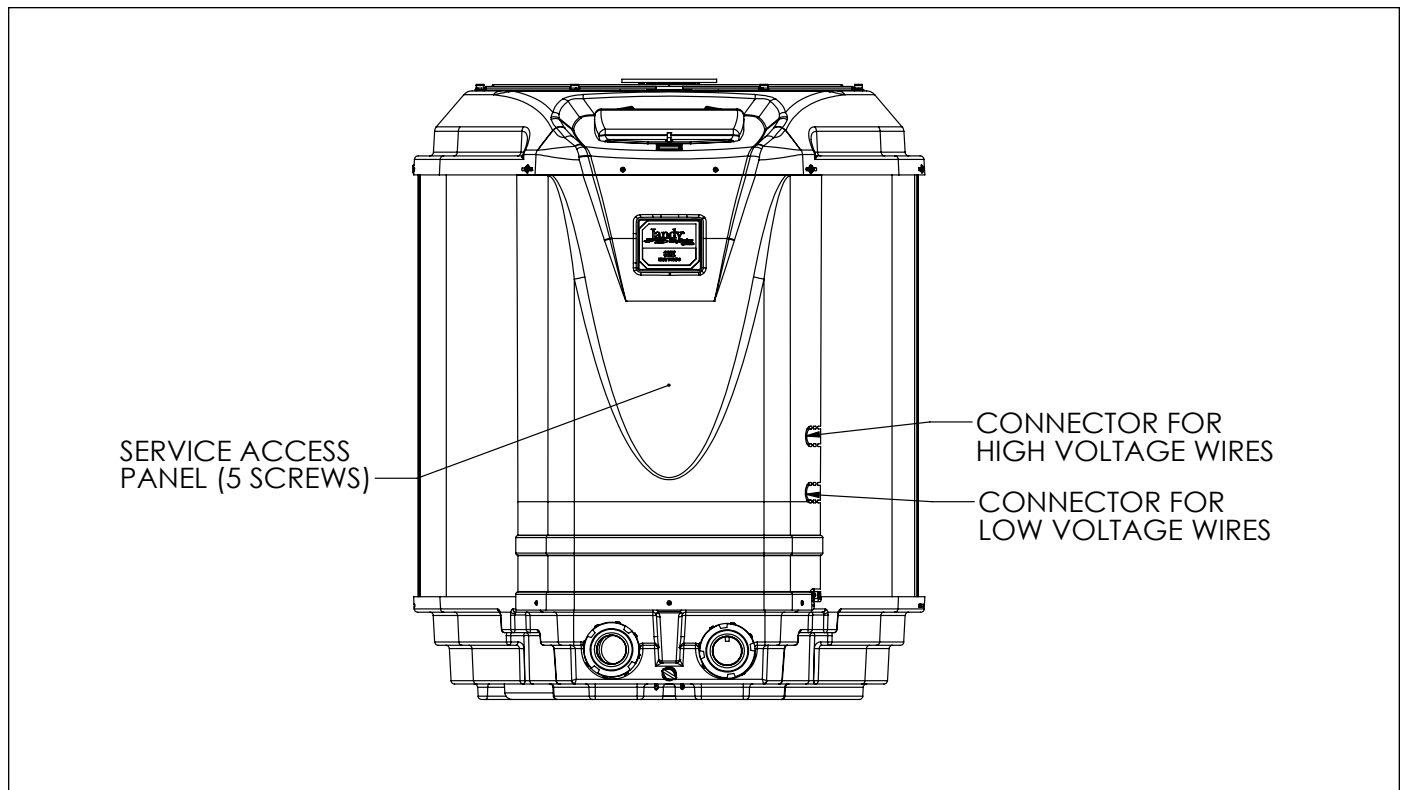

Figure 10. Jandy JE Heat Pump Front View
2. Remove the five (5) screws that attach the service/access panel to the heat pump unit (see Figure 10).
4. Electrical supply lines must be run through watertight conduit. Route the wires and conduit through the knock-out designated for high voltage on the right side of the heat pump. Connect to the bottom of the sheet metal junction box. See Figure 10 for knock-out location.
2. Remove the screws that attach the service/access panel to the heat pump unit and the cover to the junction box (see Figure 10).
3. Run the wires from the pool/spa control system into the conduit connection labeled “Low Voltage Connection”, located on the lower right hand side of the heat pump (see Figure 10).
2. Remove the screws that attach the service/access panel to the heat pump unit and the cover to the junction box (See Figure 10).
3. Run the wires from the pool/spa control system into the conduit connection labeled “low voltage connection”, located on the lower right hand side of the heat pump (See Figure 10).
2. Remove the five (5) screws that attach the front panel to the heat pump and remove the cover to the junction box. See Figure 10.
3. Run four (4) 22 AWG solid copper wires into the conduit labeled “Low Voltage Connection” located on the lower right hand side of the heat pump. See Figure 10. The wires may be up to 300 feet (91.4 m) in length.